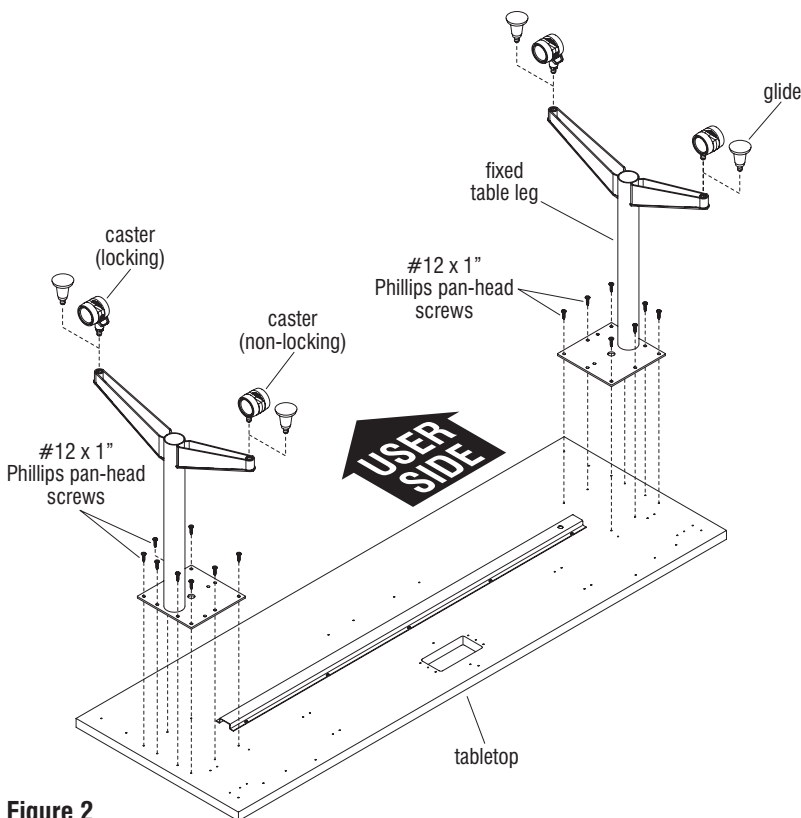

Figure 2
4. Position each fixed table leg over pre-drilled mounting holes in the underside of the table as illustrated. Secure the table legs to the top using eight #12 x 1" screws through each base (Figure 2).
5. Locking and non-locking casters are provided. Locking casters are to be installed to the front, user-side of each leg and non-locking casters should be installed to the rear of each leg. Use a 19 mm open end wrench to tighten casters to the foot of each leg (Figure 2).
6. To attach glides, thread stem into bottom of leg by hand (Figure 2).